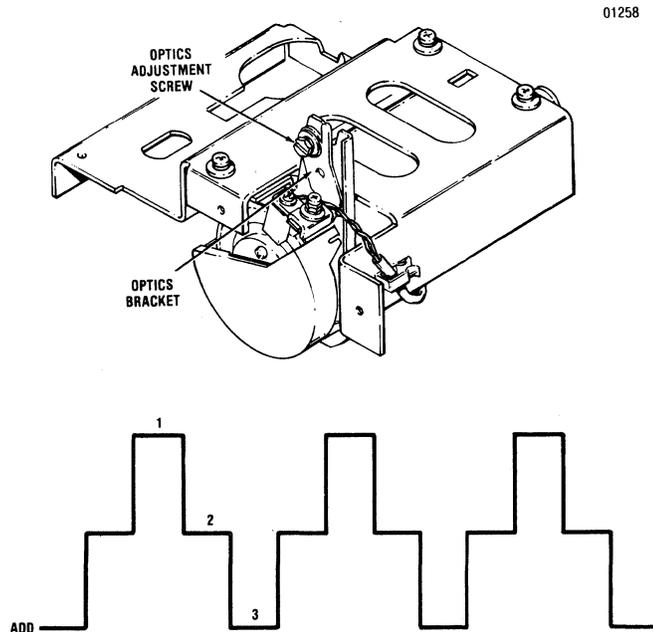

Figure 4-7. ELECTRICAL ADJUSTMENT, OPTIC SENSOR AND ENCODER/TIMING DISC
6. Deselect the printer and compare the first and last columns of printed text to Figure 4-7.